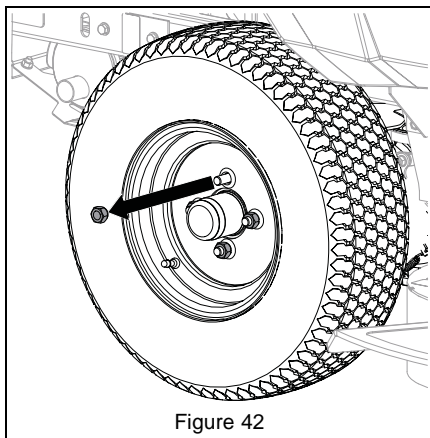

Figure 42
3. Remove and retain lug nuts from wheel hub. See Figure 42.